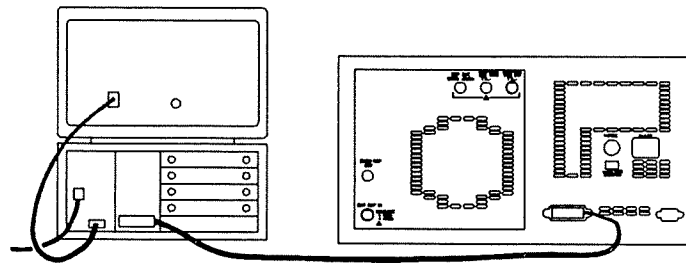

Figure 1-2. HP-IB Connections
1. Turn off the HP 3588A and the HP 9836, then connect them with the HP-IB cable as shown in figure 1-2.